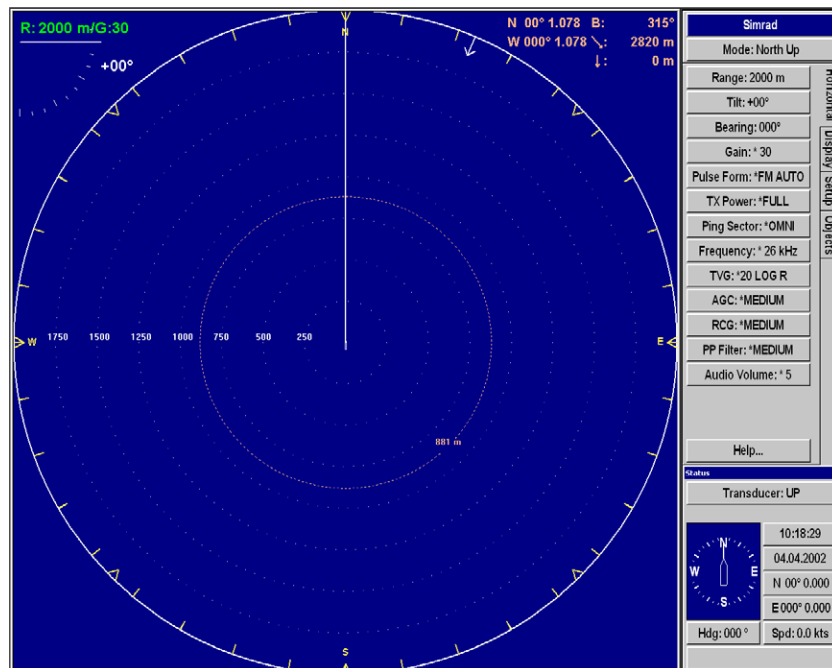

Figure 9 Typical screen presentation with the menu on the right hand side
- A standard menu presentation is shown in figure 9.